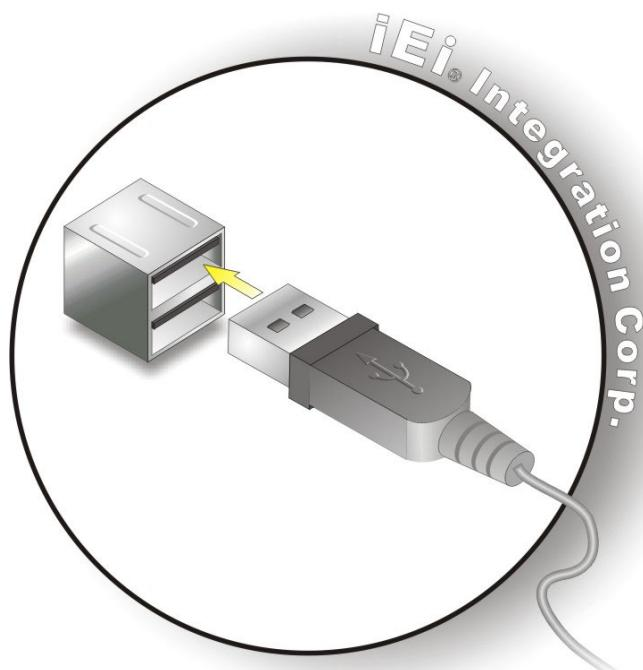

Figure 4-22: USB Connector
Step 2: Insert a USB 2.0/3.0 plug. Insert the USB 2.0/3.0 plug of a device into the USB 2.0/3.0 on the external peripheral interface. See Figure 4-22.